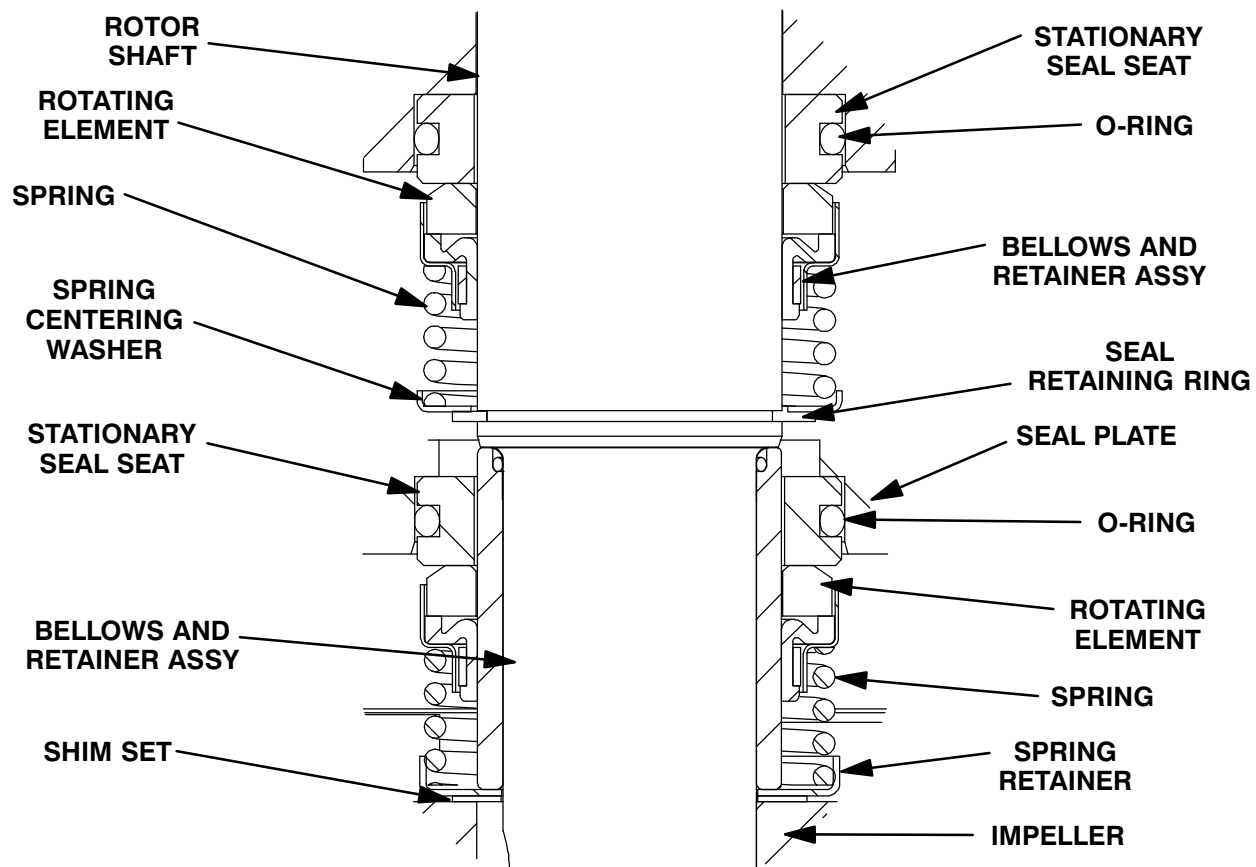

Figure E-3. Upper And Lower Seal Assemblies
Install the shaft seals as illustrated in Figure E-3.
Slide the seal spring over the shaft and bellows retainer and install the spring centering washer. Install the seal retaining ring (10). See Figure E-3 for the proper order of seal assembly.
Install the seal spring over the bellows retainer and install the spring retainer (25). See Figure E-3 for proper order of seal assembly.